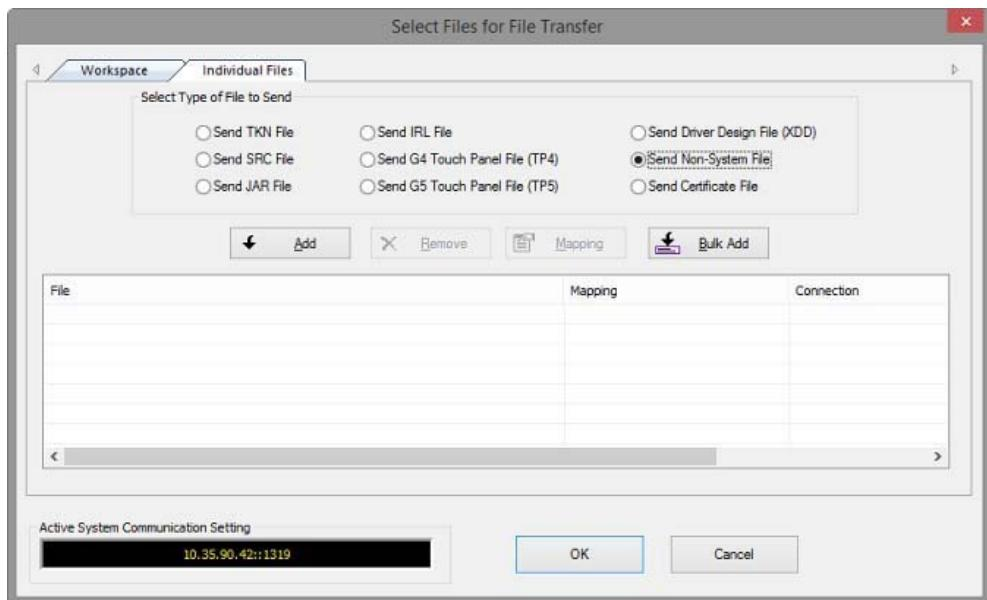

Fig. 165 NetLinx Studio 4 - Select Files for File Transfer dialog (Individual Files tab)
2. Click **Add** to open the *Select Files for File Transfer* dialog, open the *Individual Files* tab and select **Send Non-System File** (FIG. 165):